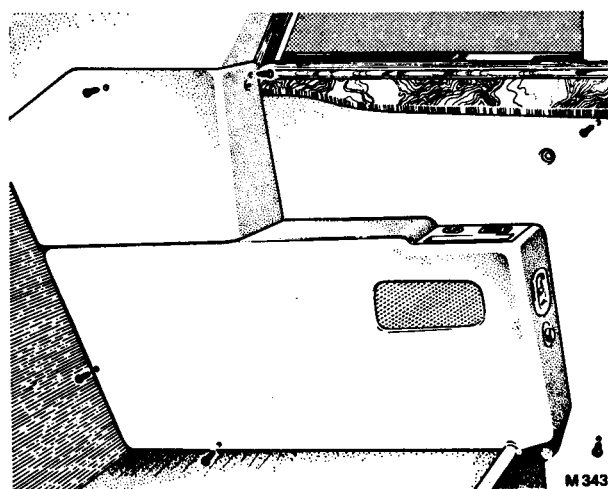

FIG. S59 REAR QUARTER PANEL/ARMREST SECURING SCREWS
7. Remove the screws securing the quarter trim panel to the body (*see Fig. S59*).
8. Remove the screws securing the quarter trim panel to the body (*see Fig. S59*); lift the panel away sufficiently to enable the electrical leads to the panel switches and cigar lighter to be disconnected.